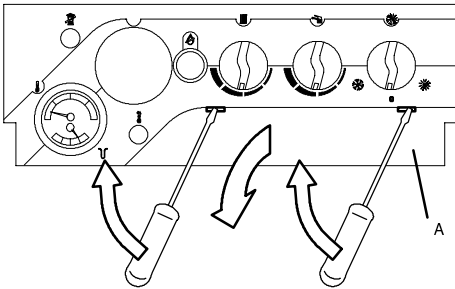

fig. 4.9
Turn off the electricity supply to the boiler using the multi-way switch provided with the appliance; Insert a small flat-bladed screwdriver into the two slots indicated in fig. 4.9.
- 4 Insert a small flat-bladed screwdriver into the two slots indicated in fig. 4.9. Lever upwards **gently** with the screwdriver so as to unfasten panel "A" by rotating it downwards.